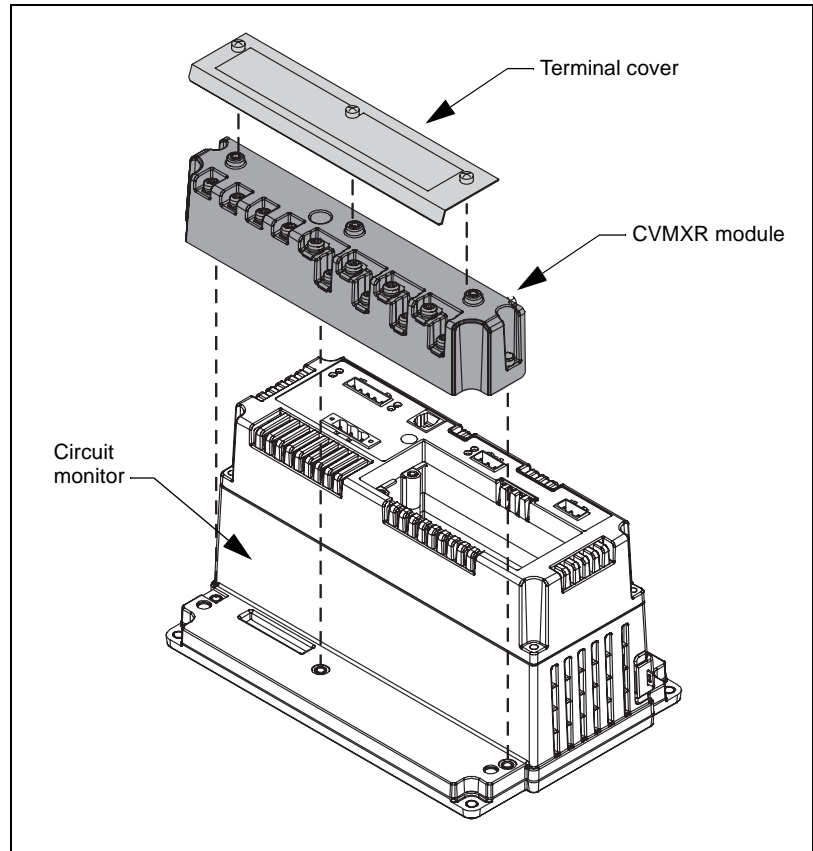

Figure 1: Removing and installing the module
To remove and reinstall the module, follow these instructions and refer to Figure 1 on the back of this sheet.
- a. Disconnect the metered voltage by removing the fuses from the potential transformer (PT) or from the voltage disconnect.
- b. Short circuit the current transformer (CT) secondaries to disconnect the metered current.
- Pull the module straight up until it disengages from the circuit monitor, as shown in Figure 1.